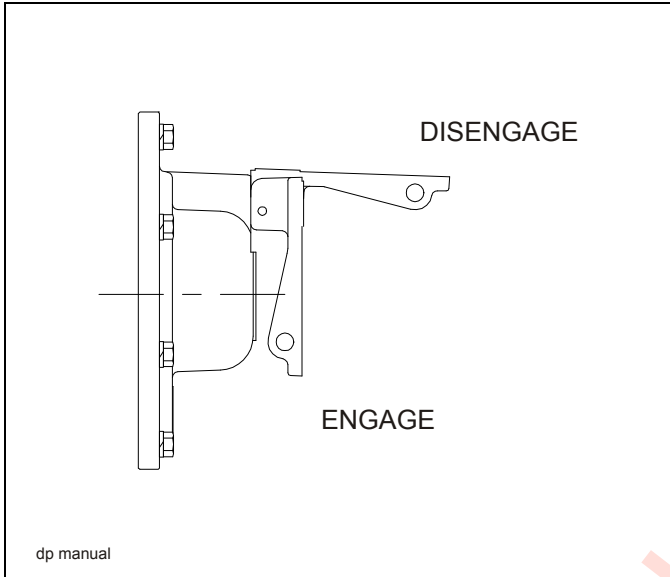

Figure 3-10: Manual Lever Kickout
- 1. The manual freespool clutch is operated by pulling lever kickout (See Figure 3-10.)